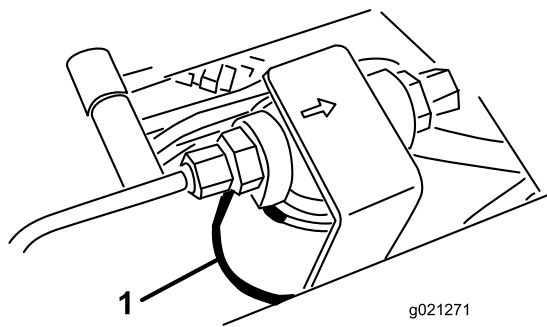
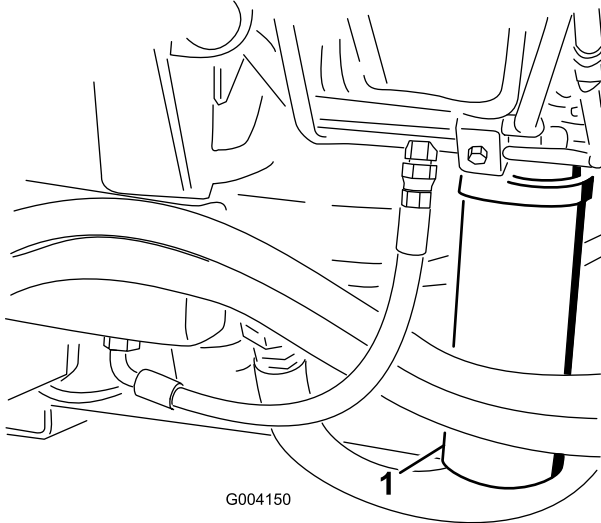

Figure 104
Figure 105
2. Clean the area around the filter-mounting area and place a drain pan under the filter (Figure 104) and (Figure 105).